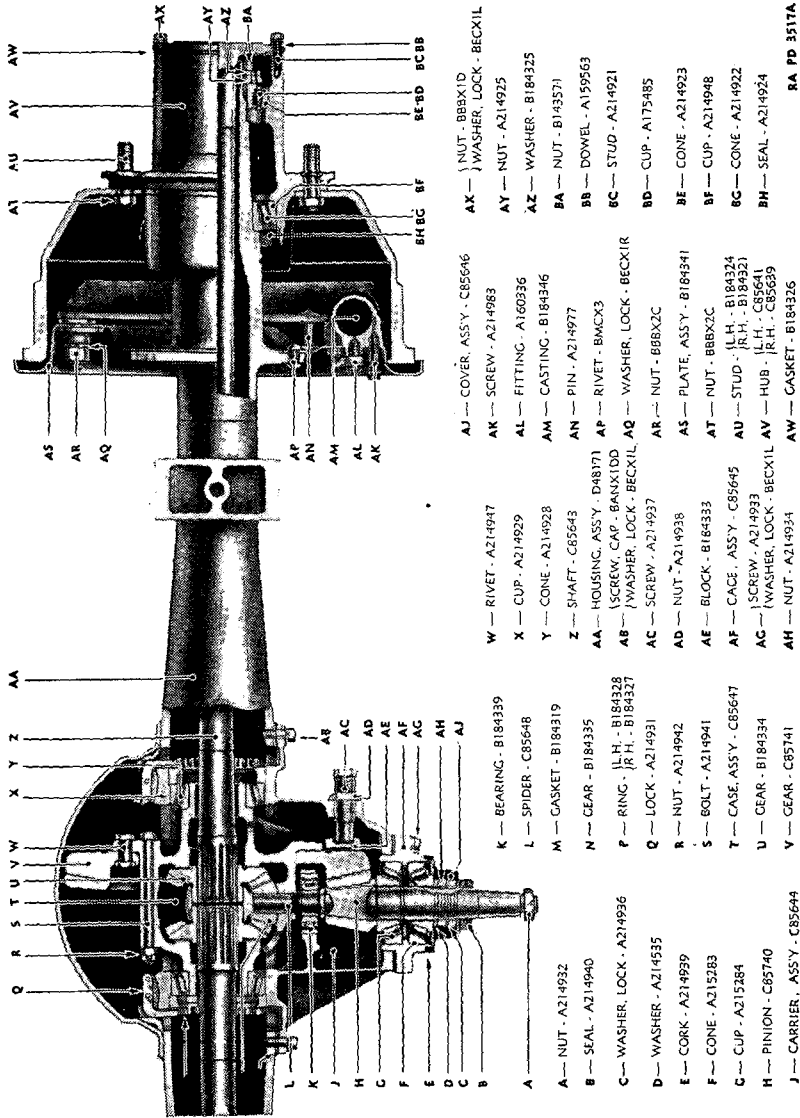

FIGURE 44.—Rear axle (jackshaft) assembly, sectionalized.
a. Construction (fig. 44).—(1) The rear axle (jackshaft) consists of a banjo type housing which has a pressed steel center with forged steel outer ends welded to the housing. The differential and bevel gear assembly, together with the pinion assembly, are mounted in the carrier